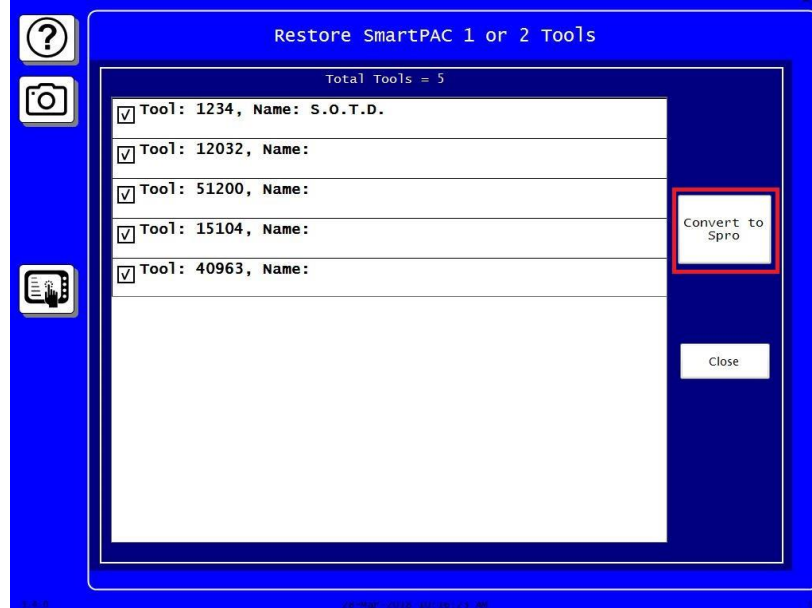

Figure 6. Convert to Spro
6. Tools that are checked will be restored to the SmartPAC PRO. Uncheck any of the tools you do not want restored. Then press **Convert to Spro** (Figure 6).